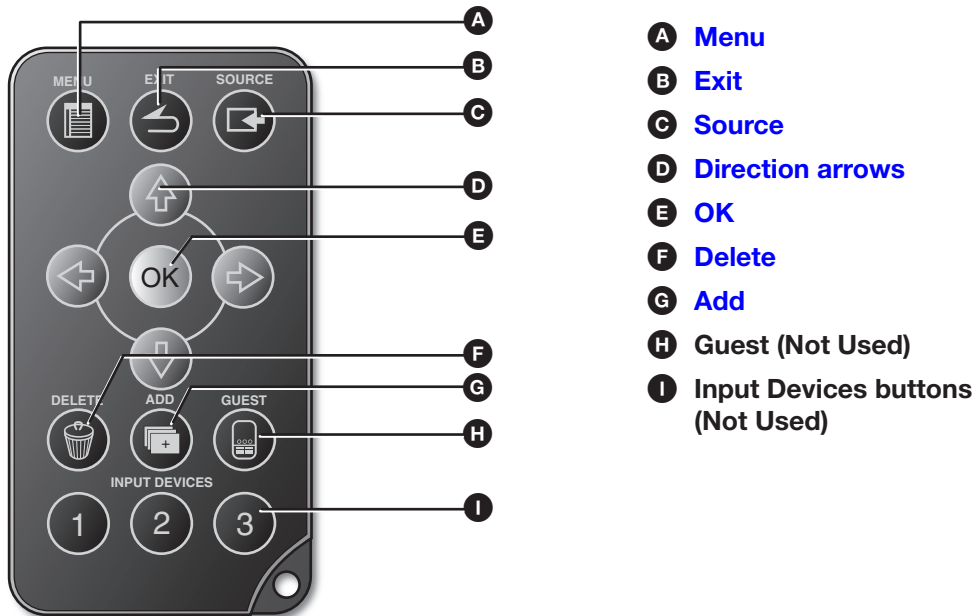

Figure 8. eLink 100 IR Remote Control
2. Press the **Add** button on the remote control (see figure 8, **G** on page 12). The following message appears on the OSD: **Please Activate Registration on Transmitter Unit.**
4. Press the **OK** button on the remote control (see figure 8, **E** on page 12) to confirm. The message *Adding transmitter name...* and a progress bar appear on the OSD while the registration process is completing.